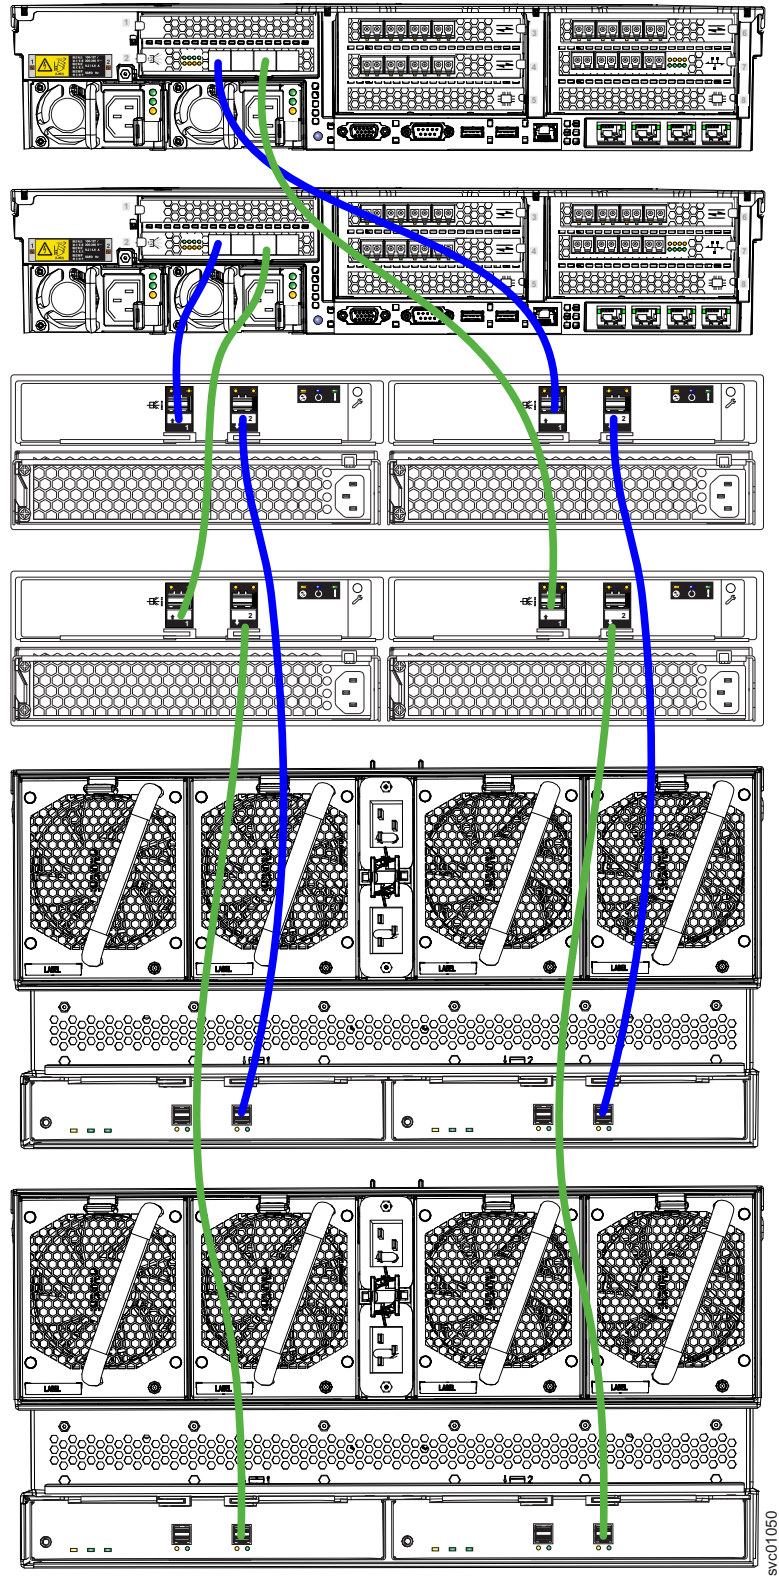

Figure 132. Connecting the SAS cables
1. Install the cables, as shown in Figure 132 on page 138.
Note: Figure 132 on page 138 is provided to show the cable connections between the SAS enclosures and each node enclosure. It does not imply or represent the precise racking order for the enclosures in a rack. However, due to its size and weight, always place the 2145-92F enclosure near the bottom of the rack.
As Figure 132 on page 138 shows, you can combine 2145-24F, 2145-12F, and 2145-92F enclosures in a SAS chain. The limiting factor is the combined *chain weight* of the various components. The maximum SAS chain weight that can be attached to a node SAS port is 10: